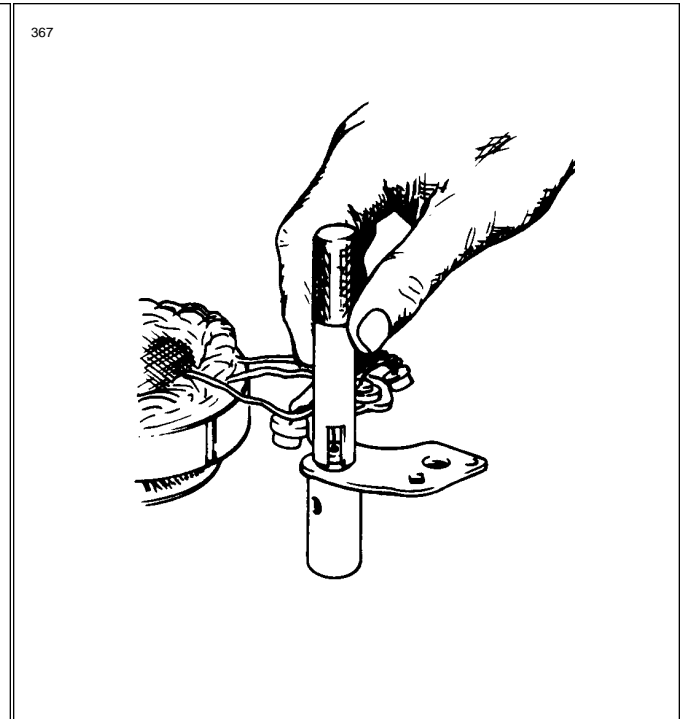

Figure 11-11 Installation of Rectifier
b. Carefully install the rectifier in the slip ring end head or rectifier mounting plate by supporting the unit and using the special tools illustrated in Figure 11-11.